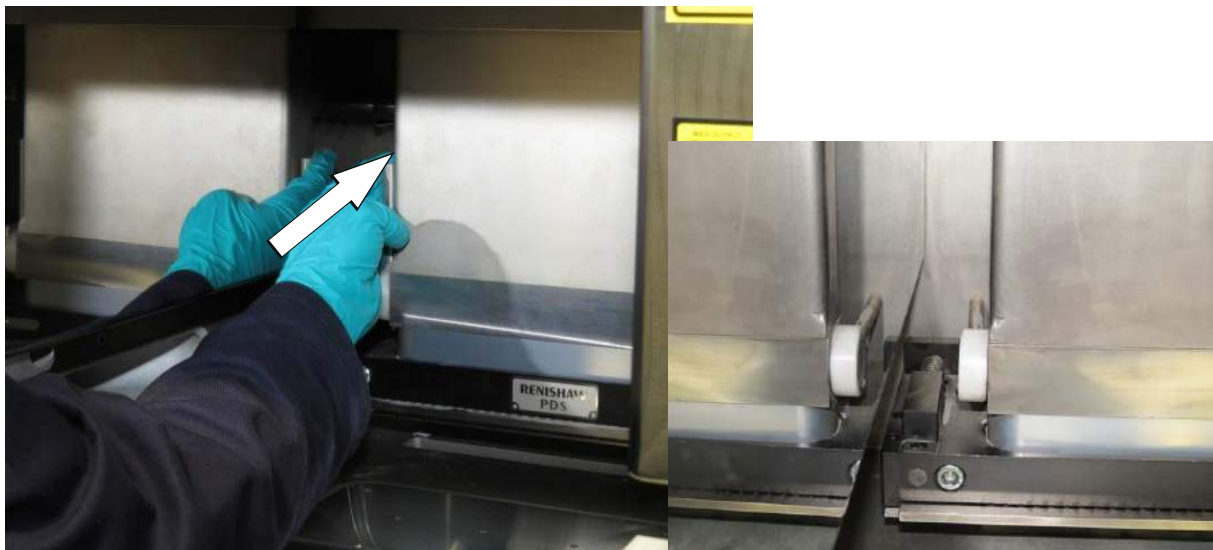

Figure 254 Open the silo dosing valve (IV1) by pushing away
**Note:** The silo dosing valve (IV1) is an exception to the rule and is open when perpendicular to flow (parallel to the ground – shown in inset of Figure 254).